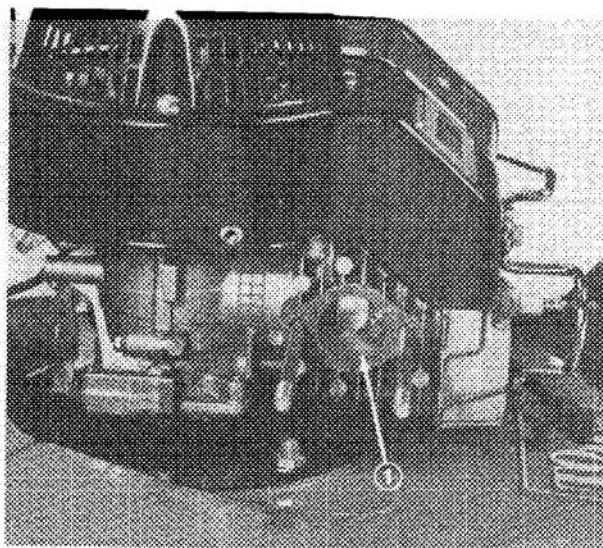

Figure 25
3. Pull wire off spark plug. Slowly pull recoil starter until piston covers exhaust port (Fig. 25).
4. Clean carbon from exhaust port (Fig. 25) with flat, hard wood scraper. After cleaning exhaust port make sure muffler gasket is still useable.